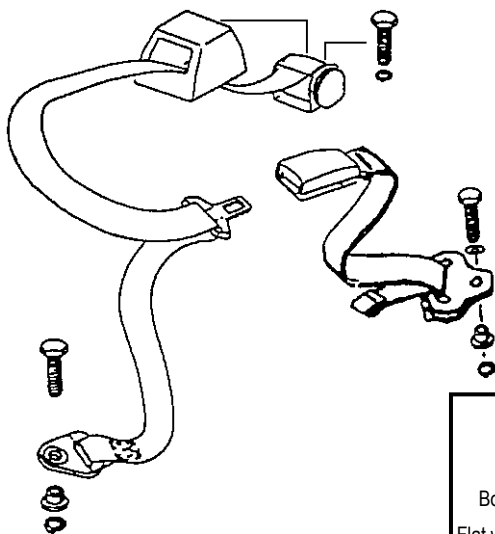

FIGURE 5
3. If an in-built anchorage is supplied, use the in-built mounting point as shown in figure 5.